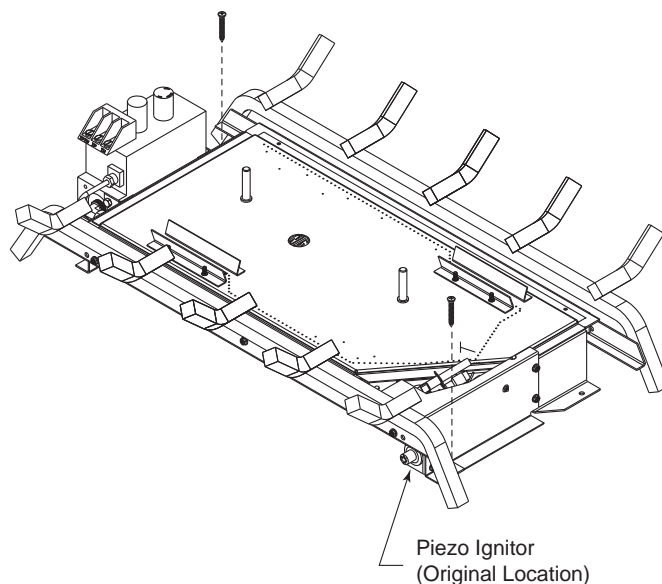

Figure 11 - Secure Burner
2. Anchor holes are located on the right and left sides of the unit. After centering the grate correctly, mark the hole locations on the fireplace/firebox floor. Drill two (2) 5/32" diameter holes approximately 1/4" deep.
3. Anchor the unit to the fireplace/firebox floor using the screws provided. *Figure 11*